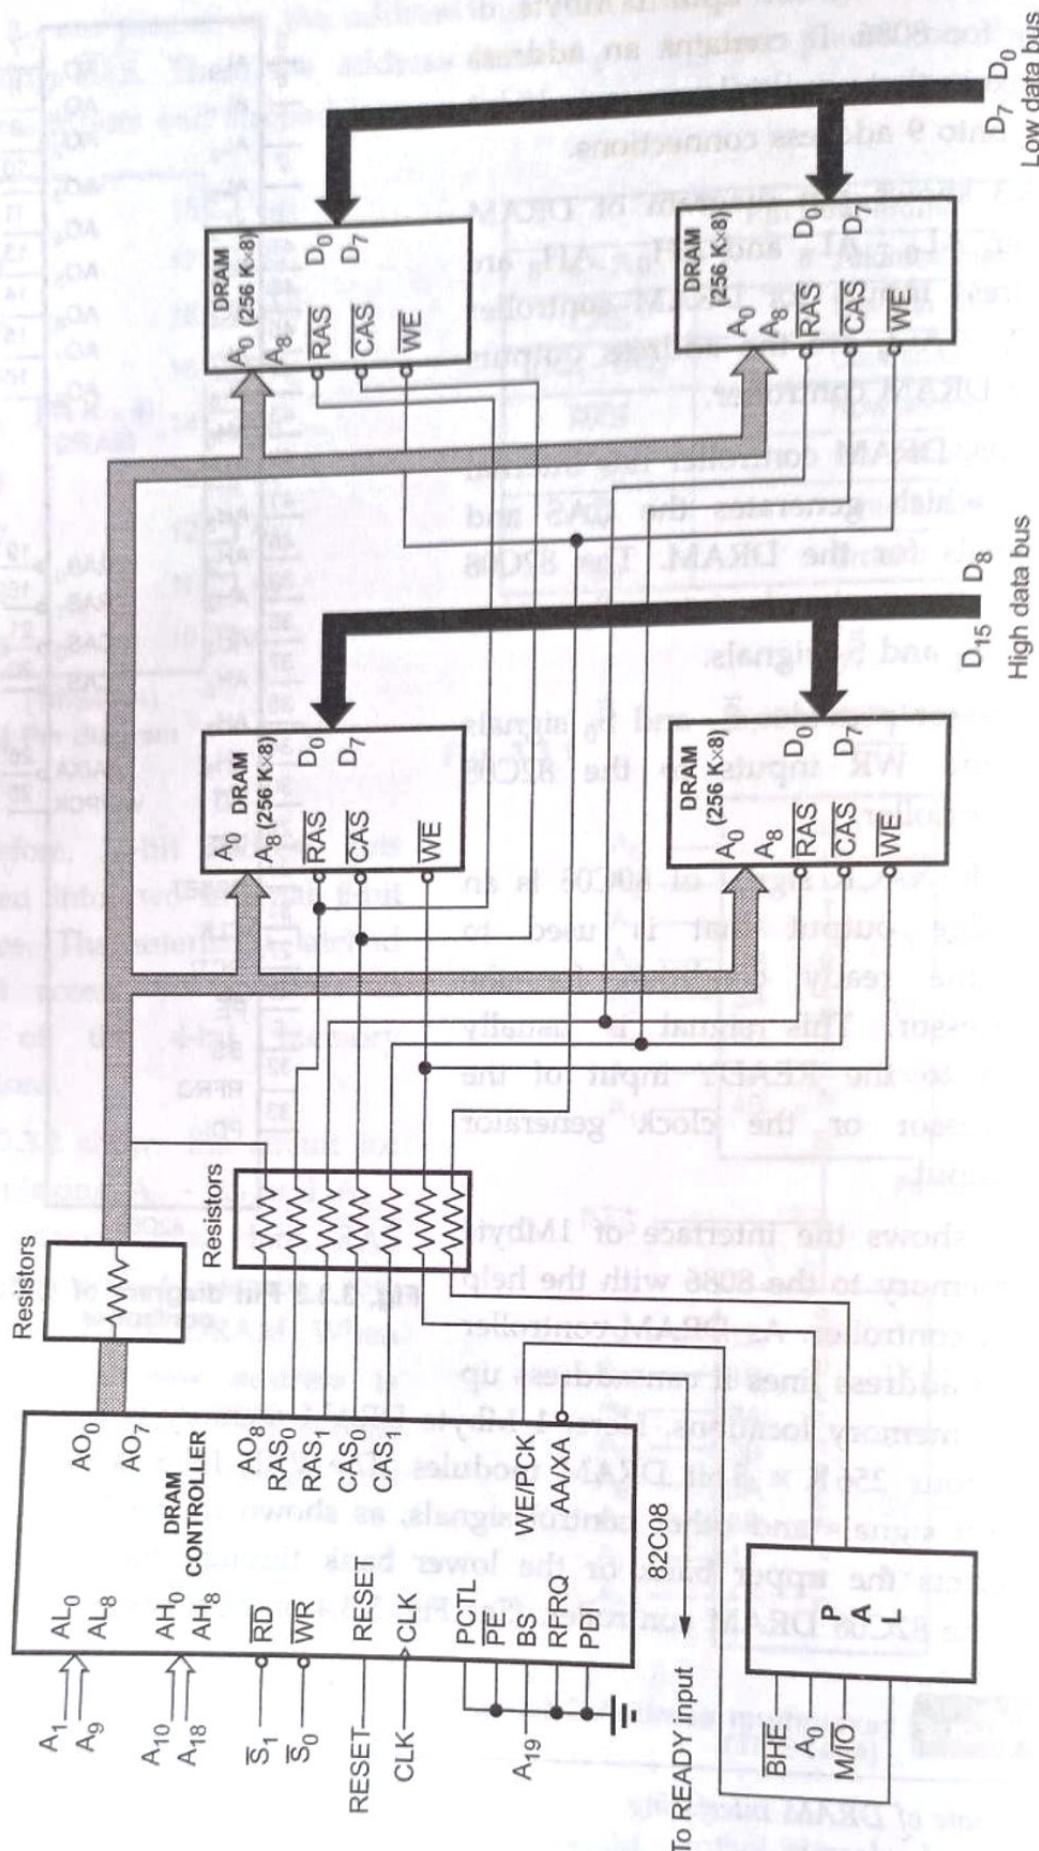

Fig. 3.3.4 The interface of 1 Mbyte DRAM memory to 8086
- Fig. 3.3.4 shows the interface of 1Mbyte DRAM memory to the 8086 with the help of DRAM controller. As DRAM controller accepts 18 address lines it can address up to 256 K memory locations. Here, 1 Mbyte DRAM memory is interfaced using a series of four 256 K \times 8 bit DRAM modules. The PAL 16L8 is used to generate bank select signals and other control signals, as shown in the Fig. 3.3.4. The A_{19} signal selects the upper bank or the lower bank through the BS (Bank Select) input to the 82C08 DRAM controller. (See Fig. 3.3.4 on next page)